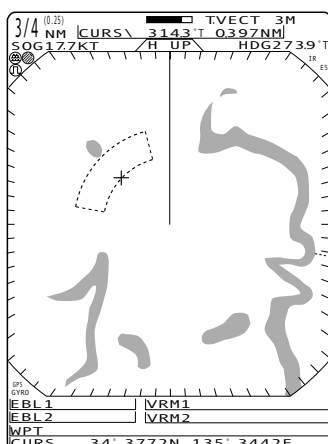
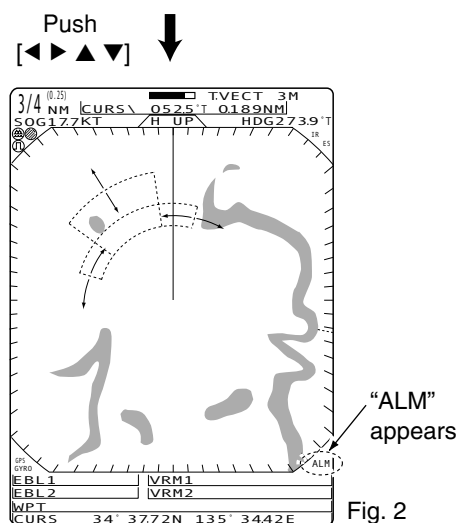

Fig. 1
Fig. 2
- ① Push [+] or [-] to select the desired range.
- ② Push [◀ ▶ ▲ ▼] to set the cursor to the starting point of the alarm zone.
- ③ Push and hold [ALM] for 1 sec. to enter the alarm zone setting.
- The starting zone appears on the screen. (Fig. 1)
- ④ Push [◀ ▶] to adjust an angle and push [▲ ▼] to set the distance of the alarm zone.
- ⑤ Push [ALM] to fix the alarm zone and activate the alarm function.
- ⑥ If a target comes into or goes out of the alarm zone, an alarm beep is emitted.
- ⑦ To deactivate the alarm function, push [ALM].
- ⑧ To activate the alarm function again with the same programmed zone, push [ALM].
- "ALM" and pre-programmed alarm zone appears. (Fig. 2)